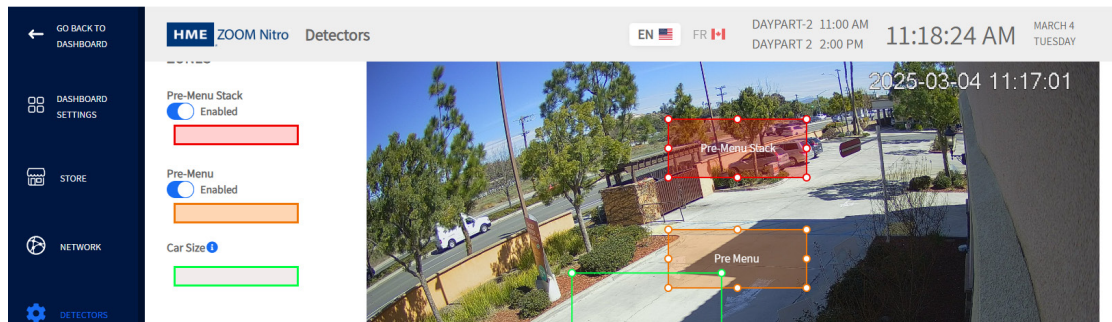

Fig. 28
12. If Drive-Thru is selected from the Location drop-down list, two zones appear: the Pre-Menu Stack and Pre-Menu zone. Toggle both switches to enable both zones, and two polygons (red and orange) will appear in your camera view like those shown in Fig. 28.